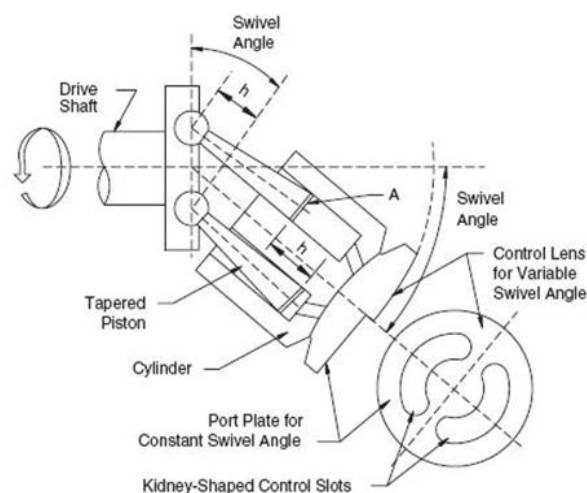

Fig.3.8 - Bent axis piston pump
- ▶ Figure 3.8 shows the schematic of the bent axis piston pump. In these pumps, the reciprocating action of the pistons is obtained by bending the axis of the cylinder block.